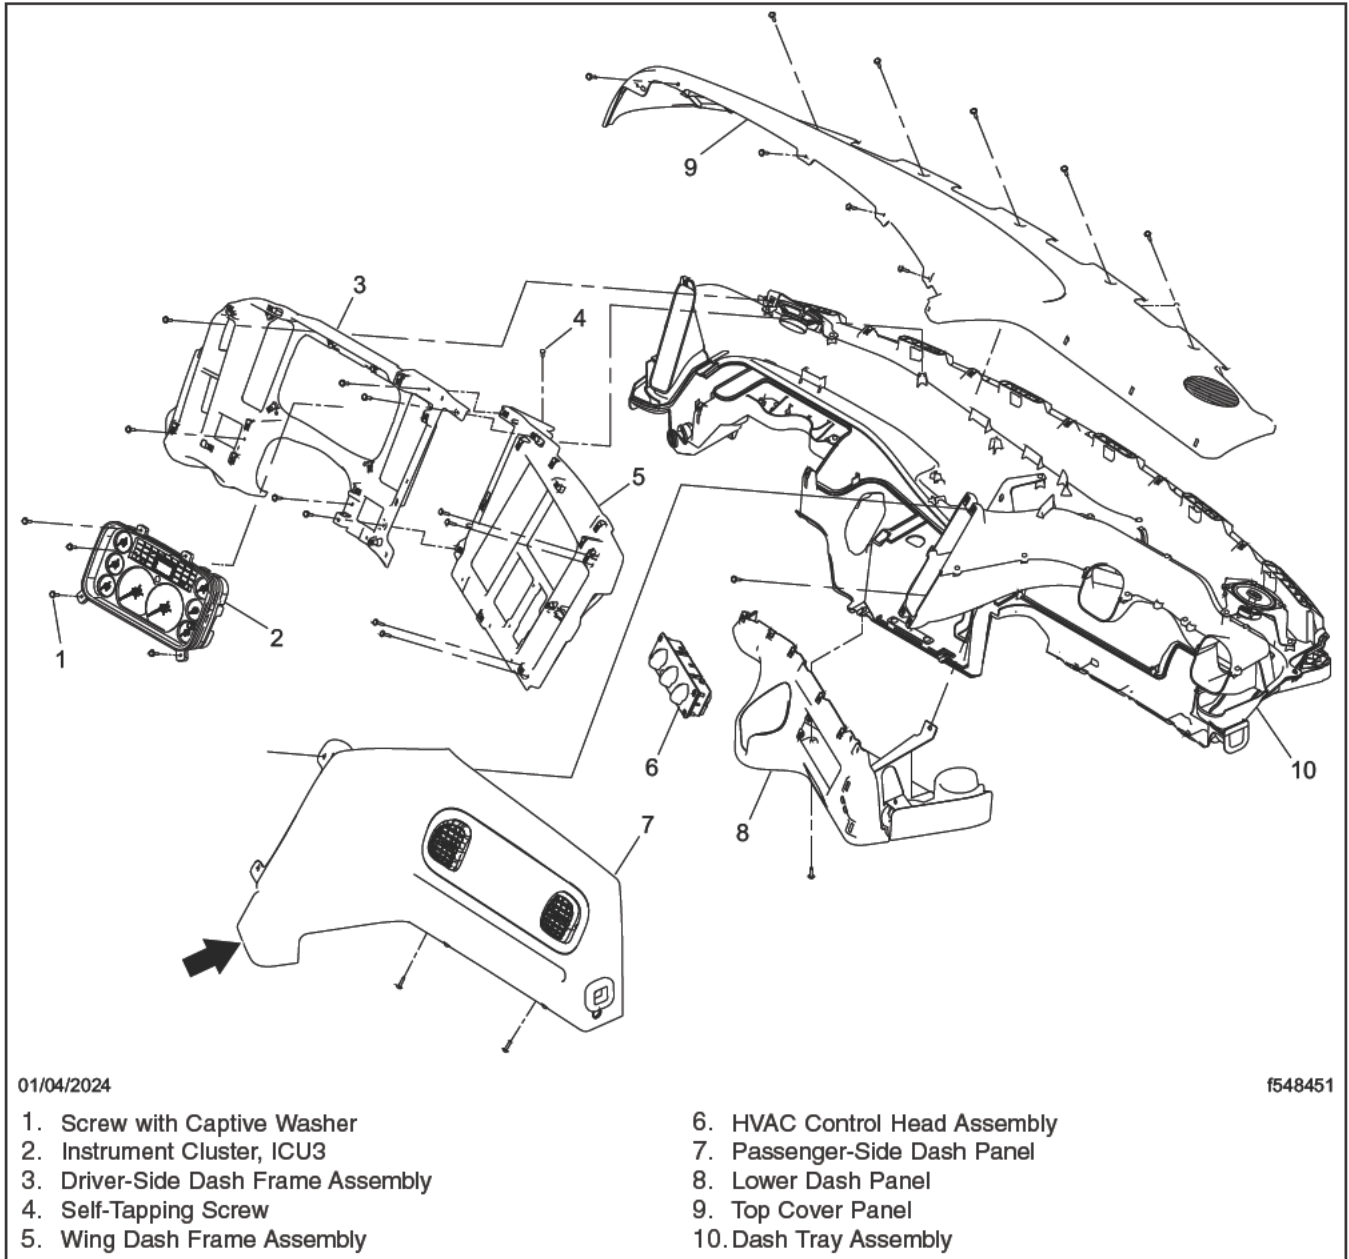

Fig. 4, Dash Components
2. Remove the passenger-side dash panel. See **Fig. 4**. For instructions, see **Group 60** of the applicable workshop manual.